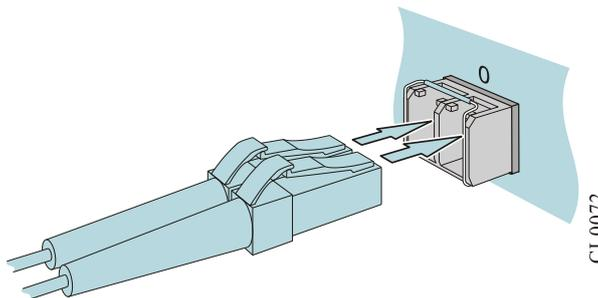

FIGURE 4-13 CONNECT FIBERS
Step 4: Insert the prepared fibers to the ports of the optical module in order, as shown in Figure 4-13.